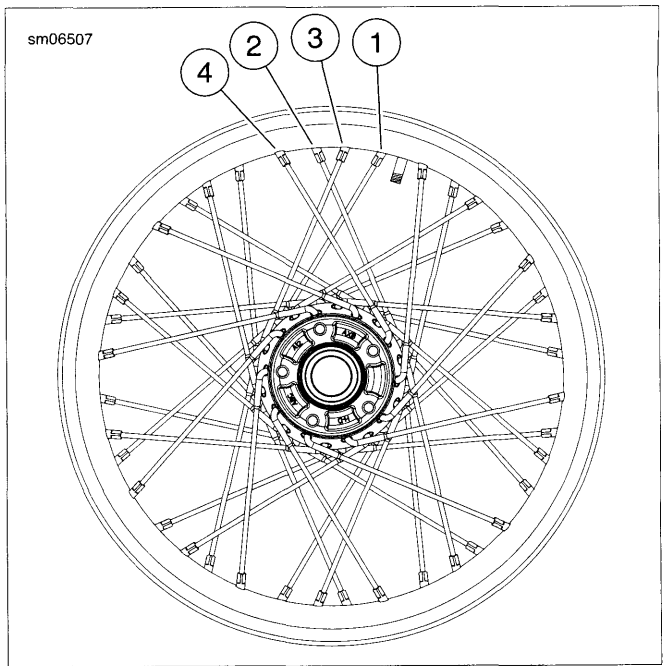

**Figure 2-22. Spokes Gathered**
3. See Figure 2-22. Flip hub over. Gather all outer spokes and hold upright with a rubber band. Repeat with the inner spokes using a second rubber band.